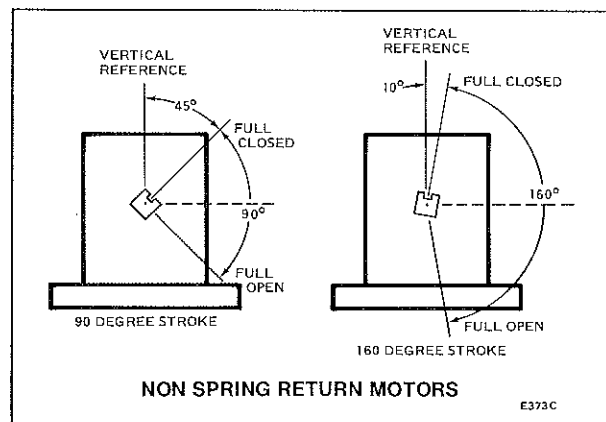

FIG. 2—MOTOR SHAFT POSITIONS AT LIMITS OF STROKE - VIEWED FROM POWER END.
**MOTOR ROTATION:** Normally closed. The closed position is the limit of counterclockwise rotation as viewed from the power end of the motor. See Fig. 2. Motor opens clockwise (as viewed from the power end). Motors are shipped in the closed position.
**STROKE:** Fixed stroke models available with 90° or 160° stroke. Other models available with field adjustable stroke from 90° to 160°. Start position of shaft changes with adjustment of stroke. (Midpoint of stroke remains fixed as stroke is adjusted, as shown in Fig. 2.) Stroke is adjusted by means of cams located in wiring compartment. (See Stroke Setting Procedure.)
All M9184 motors are shipped from the factory in the closed position (at the limit of counterclockwise rotation as viewed from the power end of the motor, as shown in Fig. 2).